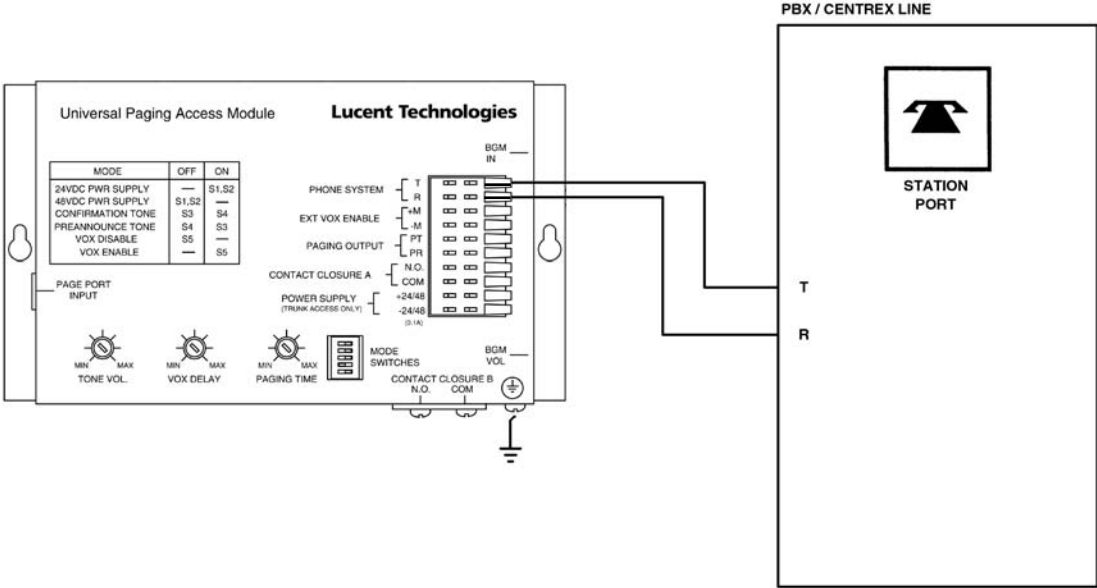

Figure 4. Station Port / Centrex Connections
5. Connect "Tip" of station port to T terminal of UPAM (see Figure 4 on next page).